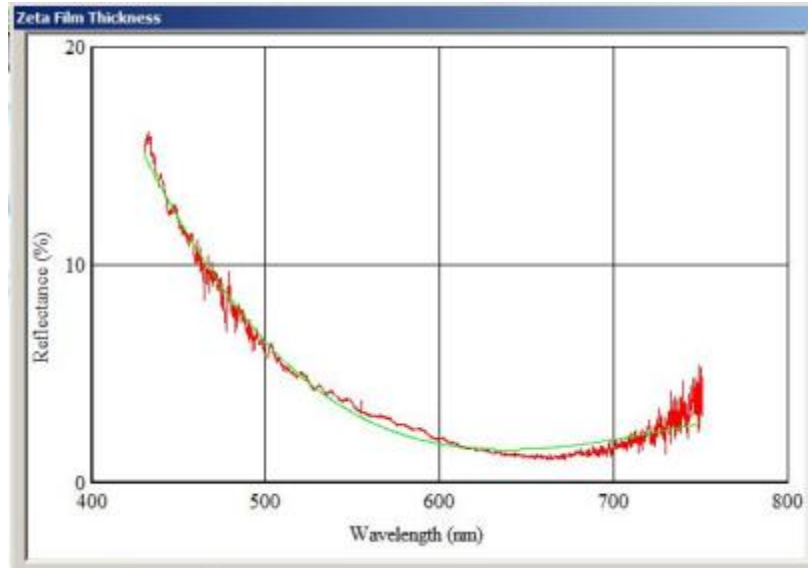

Fig. 122. Example of successful model fit
5. Click **Analyze**. The software tries to fit the model to the measurements; the green curve changes as the software iterates on a solution. If the fitting is successful, the model (green curve) converges to a position close to the measurements (red curve), as shown in Fig. 122.